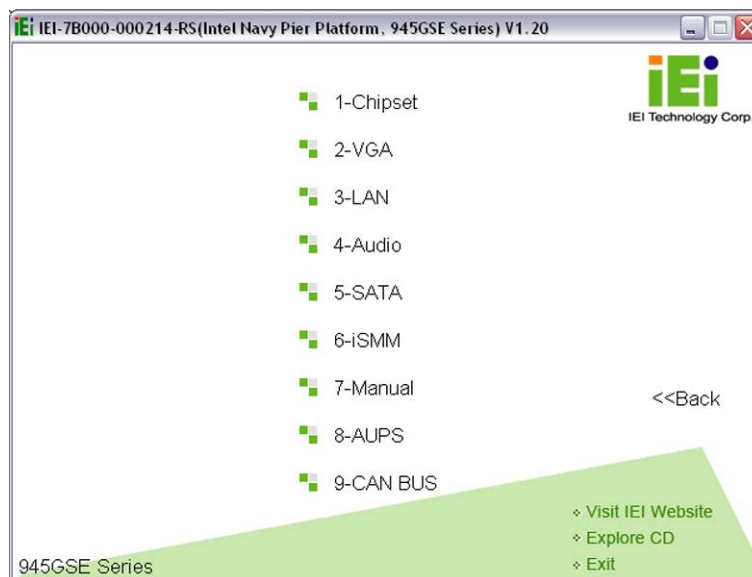

Figure 4-22: Available Drivers
Step 4: A new screen with a list of available drivers appears (**Figure 4-22**).